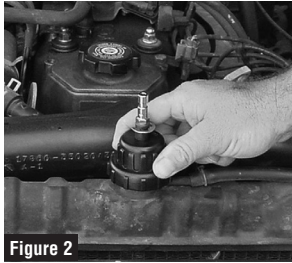

Figure 2
2. Align the locking ears of the adapter with the notches in the radiator filler neck opening. Lightly push down. Turn the adapter clockwise until the locking ears climb the radiator filler neck sloping cam surfaces. See Figure 2.